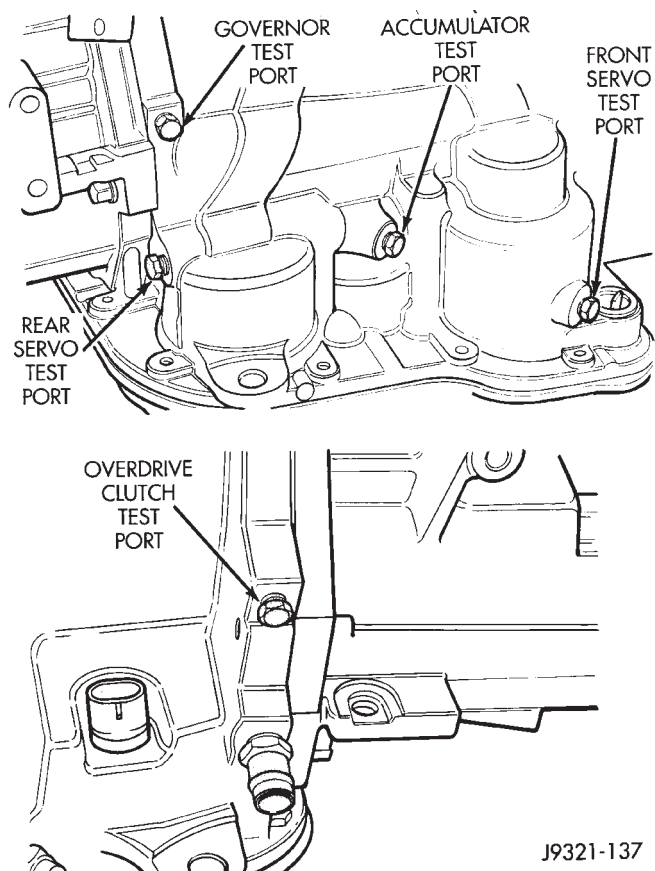

Fig. 2 Pressure Test Port Locations—46RH
The rear servo and governor pressure ports are at the right rear of the transmission case. The overdrive clutch pressure port is at the left rear of the case (Fig. 2).
- (1) Connect 100 psi Gauge C-3292 to accumulator port.
- (2) Connect 300 psi Gauge C-3293 to rear servo port (Fig. 2).
- (3) Disconnect throttle and gearshift rods from manual and throttle levers.
- (4) Start and run engine at 1000 rpm.
- (5) Move shift lever (on manual lever shaft) all the way forward into 1 range.
- (6) Move transmission throttle lever from full forward to full rearward position and note pressures on both gauges.
- (7) Line pressure at accumulator port should be 54-60 psi (372-414 kPa) with throttle lever forward and gradually increase to 90-96 psi (621-662 kPa) as lever is moved rearward.
- (8) Rear servo pressure should be same as line pressure within 3 psi (20.68 kPa).
- (1) Connect test gauge to accumulator pressure port (Fig. 2).
- (2) Start and run engine at 1000 rpm.
- (3) Move shift lever (on valve body) one detent rearward from full forward position. This is 2 range.
- (4) Move transmission throttle lever from full forward to full rearward position and read pressure at both gauges.
- (5) Line pressure should be 54-60 psi (372-414 kPa) with throttle lever forward and gradually increase to 90-96 psi (621-662 kPa) as lever is moved rearward.
- (1) Connect test gauges to accumulator and front servo ports (Fig. 2). Use either test gauge at the two ports.
- (2) Start and run engine at 1600 rpm for this test.
- (3) Move selector lever two detents rearward from full forward position. This is D range.
- (4) Read pressures on both gauges as transmission throttle lever is moved from full forward to full rearward position.
- (5) Line pressure should be 54-60 psi (372-414 kPa) with throttle lever forward and gradually increase as lever is moved rearward.
- (6) Front servo is pressurized only in D range and should be same as line pressure within 3 psi (21 kPa) up to downshift point.
- (1) Connect 300 psi gauge to rear servo port (Fig. 2).
- (2) Start and run engine at 1600 rpm for test.
- (3) Move valve body selector lever four detents rearward from the full forward position. This is Reverse range.
- (4) Move throttle lever all way forward then all way rearward and note gauge readings.
- (5) Pressure should be 145 - 175 psi (1000-1207 kPa) with lever forward and increase to 230 - 280 psi (1586-1931 kPa) as lever is moved rearward.
- (1) Connect 100 psi Test Gauge C-3292 to governor pressure port (Fig. 2).
- (2) Move shift lever to D range.
- (3) Start and run engine at curb idle speed and note pressure. At idle and with vehicle stopped, pressure should be zero to 1-1/2 psi maximum. If pressure exceeds this figure, governor valve or weights are sticking open.
- (4) Slowly increase engine speed and observe speedometer and pressure test gauge. Governor pressure should increase in proportion to vehicle speed. Or approximately 1 psi for every 1 mph.
- (5) Pressure rise should be smooth and drop back to 0 to 1-1/2 psi when wheels stop rotating.